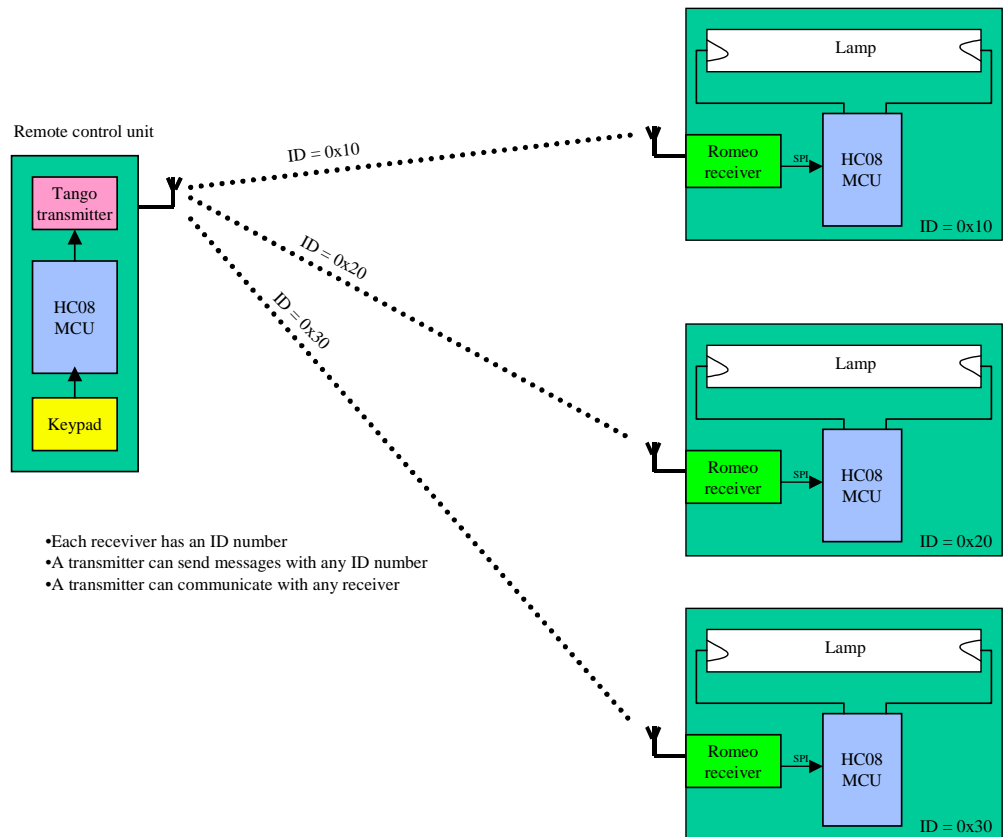

Figure 1. Simple RF Network
Figure 1 shows a simple example lighting network with three lighting fixtures (each with a Romeo2 receiver) and one remote control (with a Tango3 transmitter). Each receiver is assigned a unique 8-bit identifier (ID). The transmitter can send messages to each receiver by changing the ID in the transmitted message. Additional transmitters and receivers could easily be added to this system.
Tone signalling is used in systems where all the receiver nodes must wake up and check each RF message. For example, in the simple lighting network shown in Figure 1, it could be desirable to control all the lights simultaneously. To do this, each node is assigned an ID of 0x00 or 0xff (i.e., the ID is all '1's or all '0's). Then, all receivers will accept each message sent at the same time.